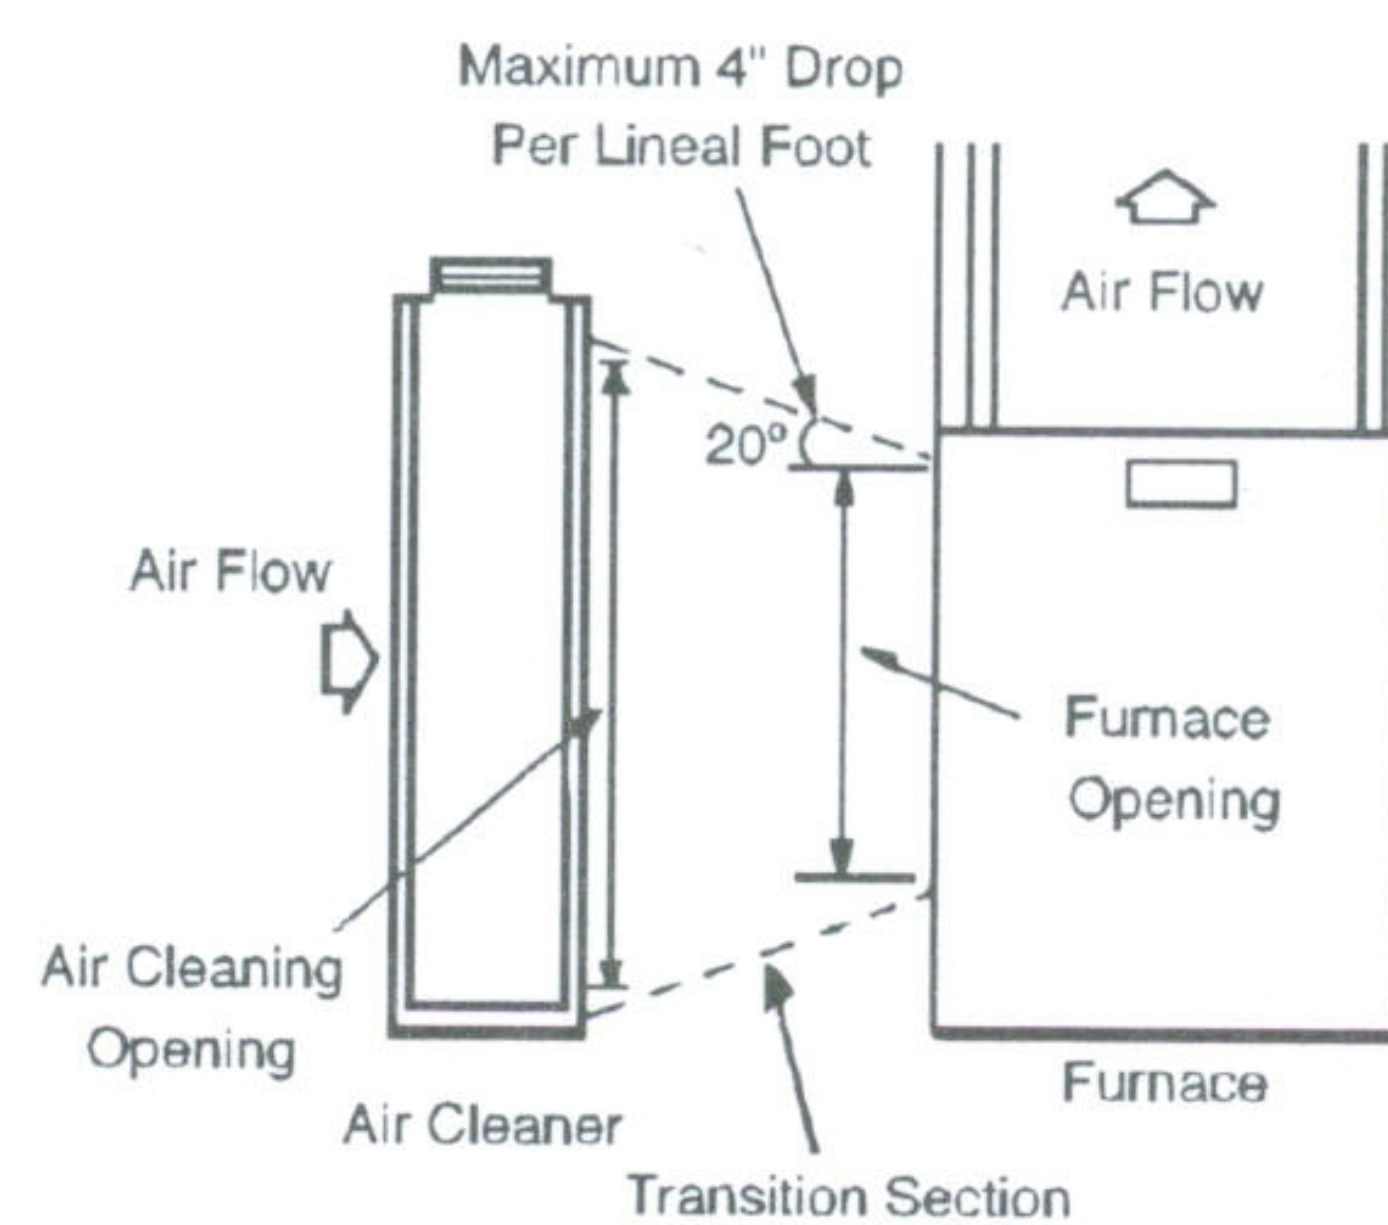

Figure 2 - Transitions
If the air duct does not fit the air cleaner cabinet opening, gradual transitions are recommended to reduce air turbulence through the air cleaner and maximize efficiency. Not more than 20° (about 4" per running foot) of expansion should be used on each side of the transition fitting (Figure 2).
6. Locate the cabinet in the cold air return duct so that all of the return air flows through the unit. If the furnace and air cleaner openings are different, use a transition (see Figure 2).